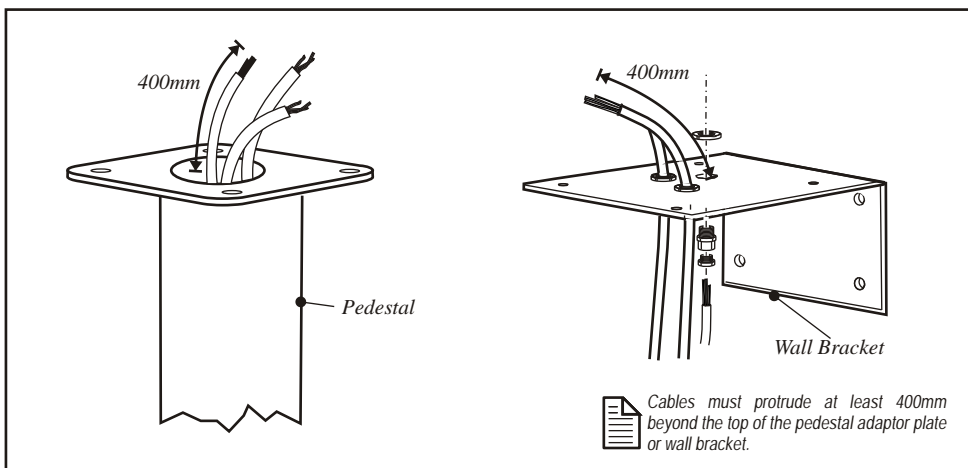

Figure 13 Pedestal Adaptor Plate Assembly
7. Route cables as determined in the cabling plan (Fig. 5), making sure that all cables protrude at least 400mm above the pedestal mounting plate or wall mount bracket as shown in Fig. 13.